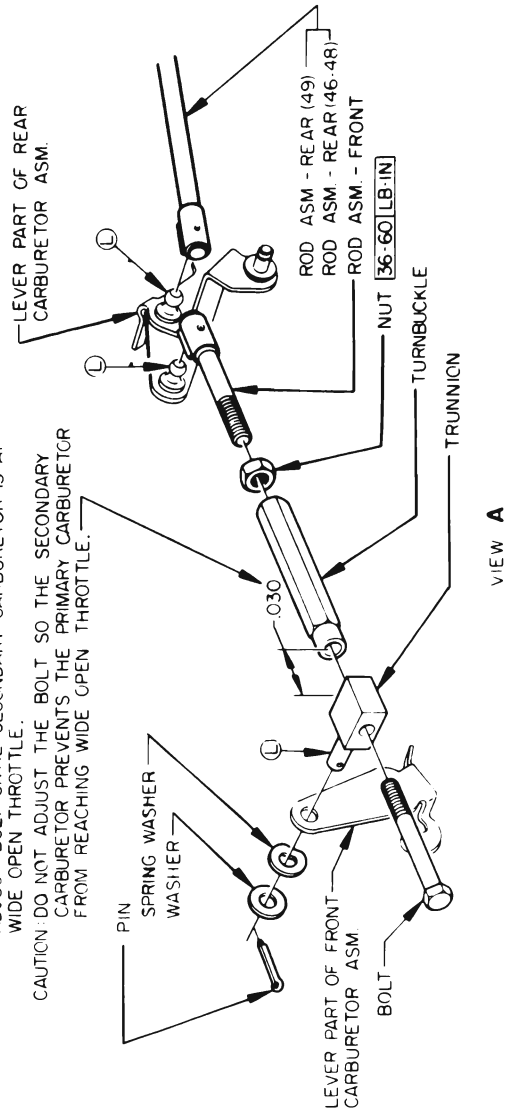

Figure 3-83—Throttle Control Information - Dual 4-Barrel
3. With both carburetors held at closed throttle, adjust turnbuckle until it just contacts trunnion of front carburetor, then back-off turnbuckle one turn and tighten lock nut. See Figure 3-83.